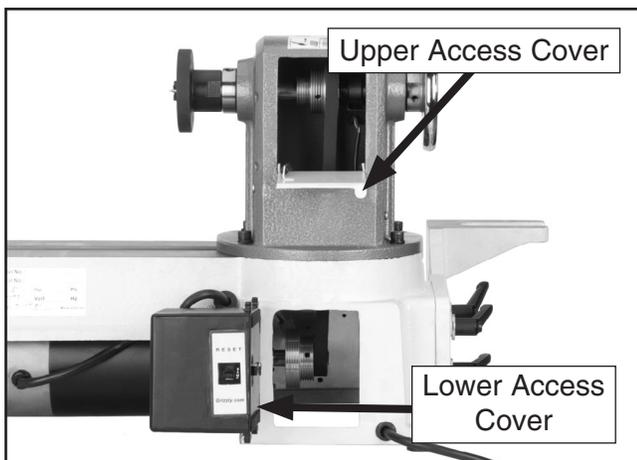

Figure 17. Side and rear access covers.
3. Open the rear access covers (**Figure 17**).